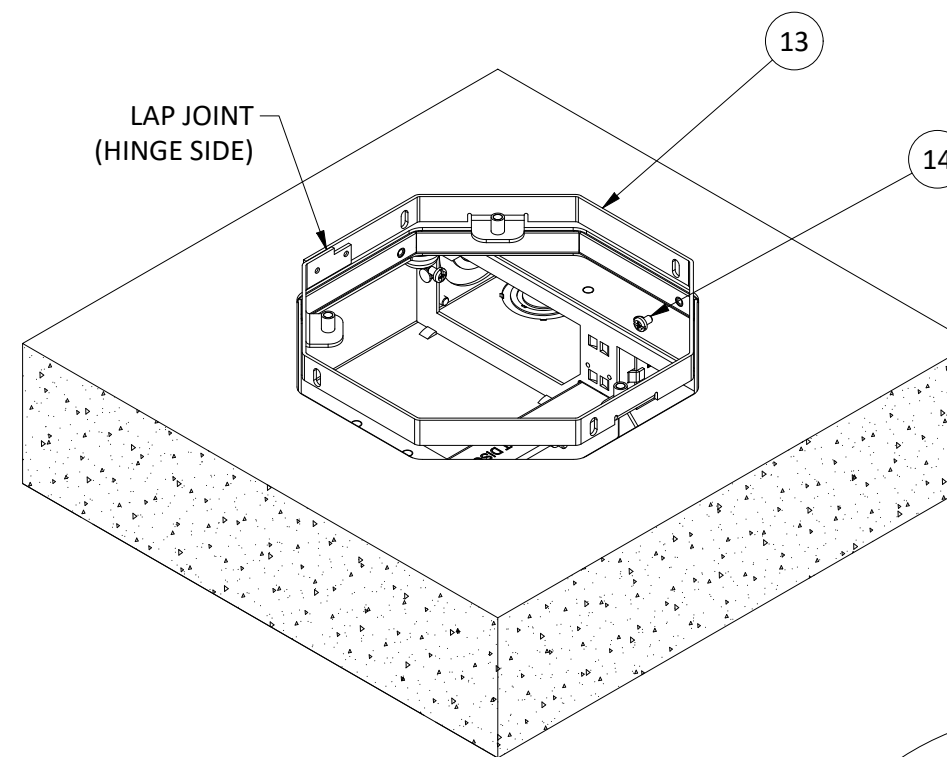

FIGURE 3
AFTER CONCRETE POUR, SEE FIGURES 3, 4, & 5
18. Orient cover support collar [13] as required by removing and reinstalling screws [14]. Lap joint in collar defines the hinge location of the cover (SEE FIGURES 3 & 4)